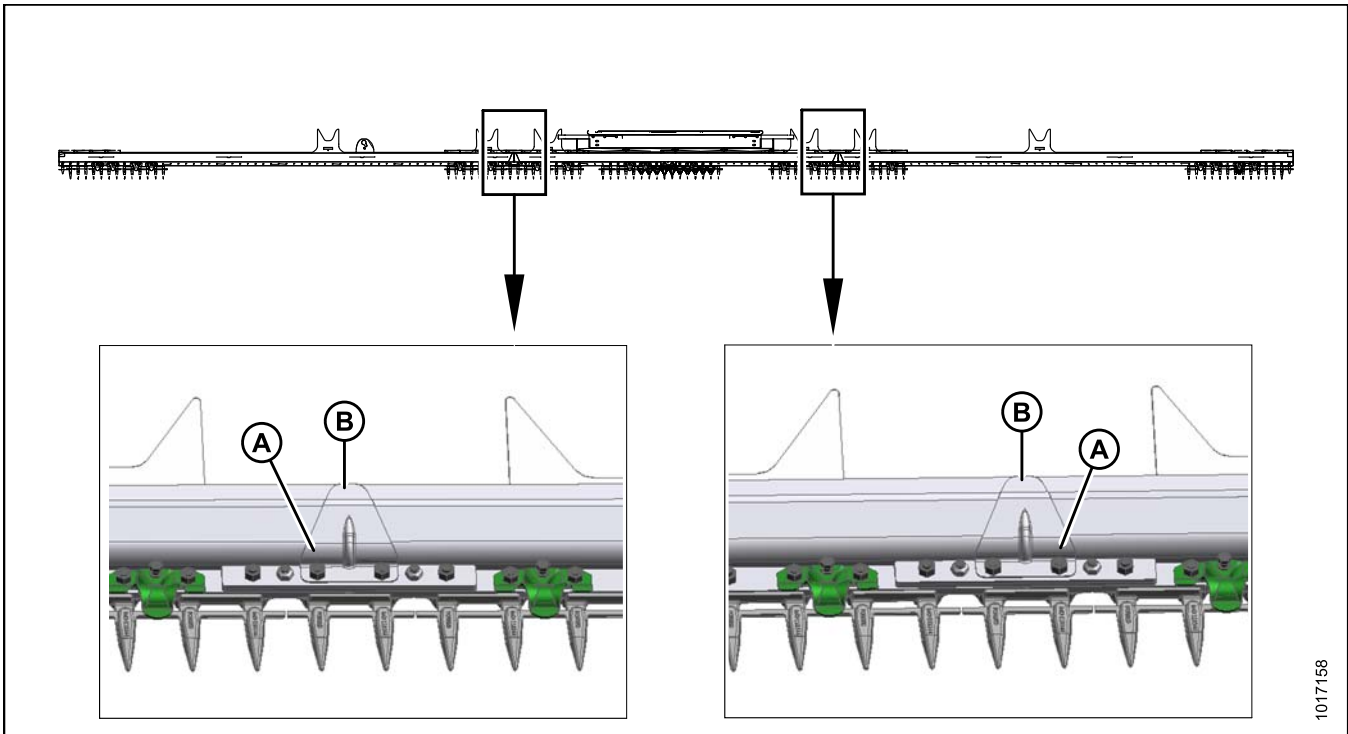

Figure 3.19: Hinge Covers
9. Remove one 7/16 x 2.5 in. bolt (A) from each left- and right-hand hinge cover. Refer to Figure 3.19: *Hinge Covers*, page 18.